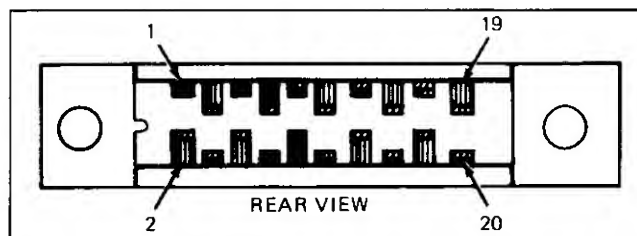

Figure 602-2. DOU Mating Connector Detail
- i. Install the wires on the mating connector for the interfaced instrument using the DOU connector information given in Table 602-1 and Figure 602-2.